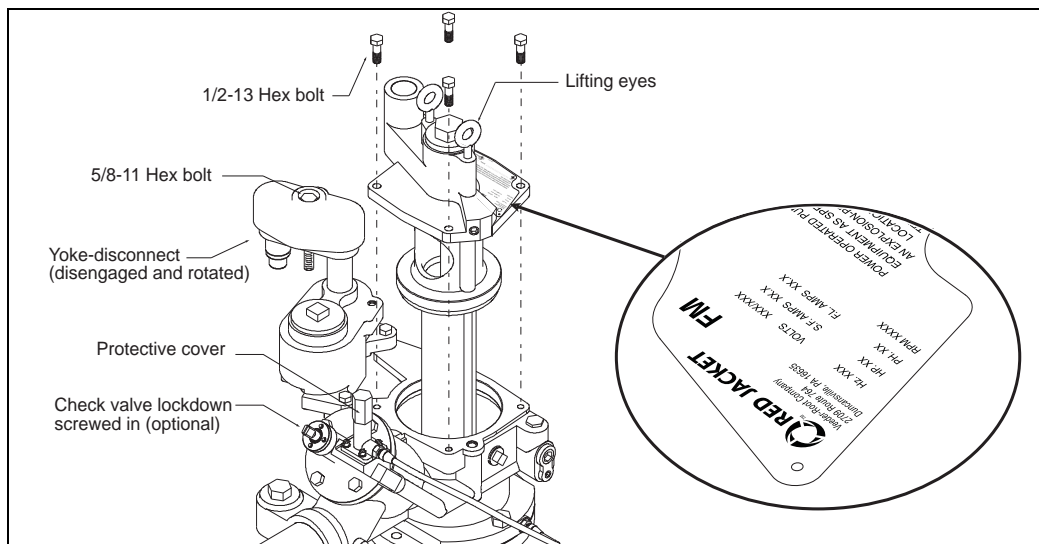

Figure 14. Maxxum® - Extractable Section Showing 'FM' On Nameplate
Only Pump Motor Assemblies listed in Table 10 are compatible with the Maxxum® Pump. These are marked with an “FM” on the nameplate (Figure 14).
2. Unscrew the 5/8-inch bolt and pull the yoke up and rotate it 90° counterclockwise (see Figure 14).
## Installing the Extracta Assembly (Ref. Figure 14)